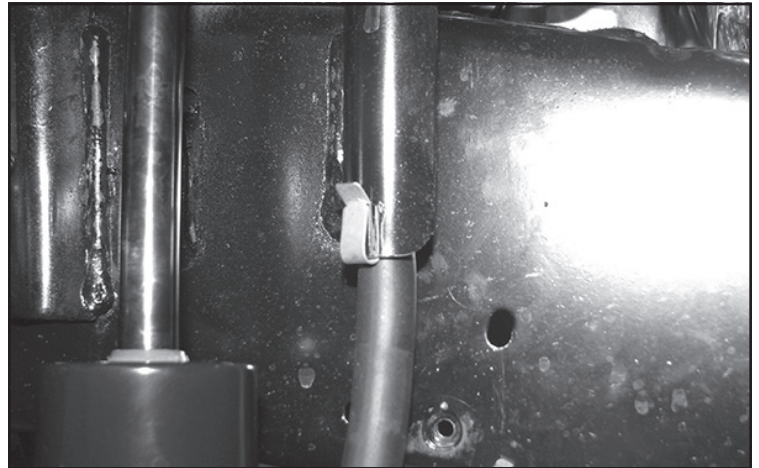
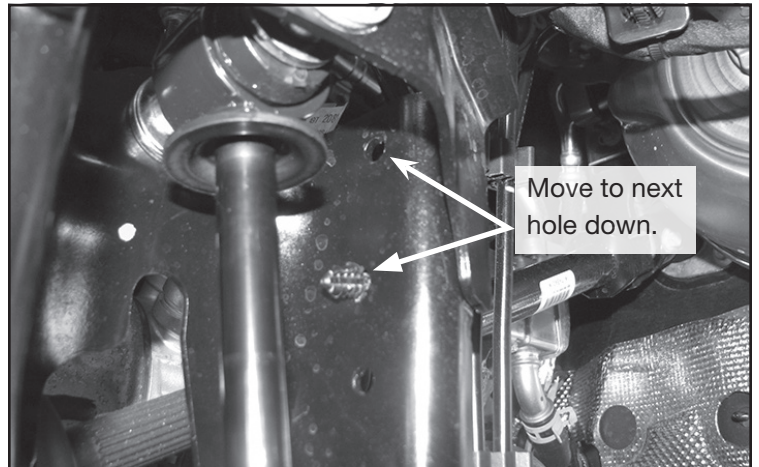

FIGURE 23 - STEP 22
FIGURE 24 - STEP 22
22. Reinstall the diff breather hose by moving the metal clip up the hose 2" **SEE FIGURE 23** and the christmas tree fastener into the next hole down. **SEE FIGURE 24.**